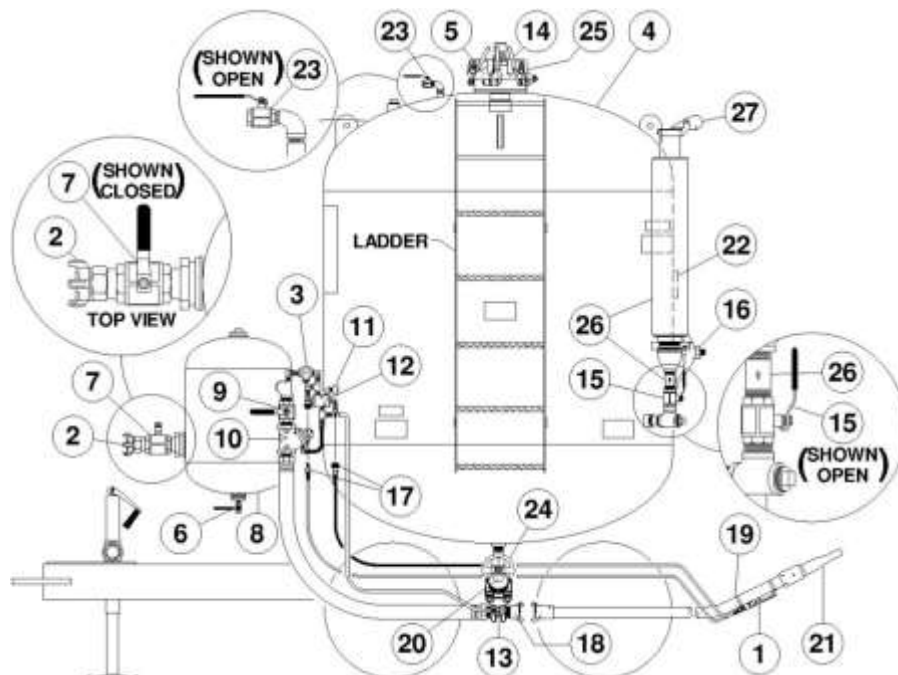

Figure 7.3 – Typical Bulk Abrasive Blaster
7.2. Beginning the Blasting Operation (See Figure 7.3 or Figure 8.7).
- 7.2.3. Open the abrasive shutoff valve (#24). See Figure 7.3.
- 7.2.5. Close the blowdown ball valve (#15) at the rear of the vessel near the manway (#16) and close the pressure indication ball valve (#23) next to the closure. See Figure 7.3.
7.3. Ending the Blast Operation (See Figure 7.3 or Figure 8.7).
- 7.3.1. Close the air inlet ball valve (#7). The ball valve is closed when the handle is fully turned to the position shown in Figure 7.3 (handle perpendicular to body). The handle tab will bottom against the ball valve body in the closed position.